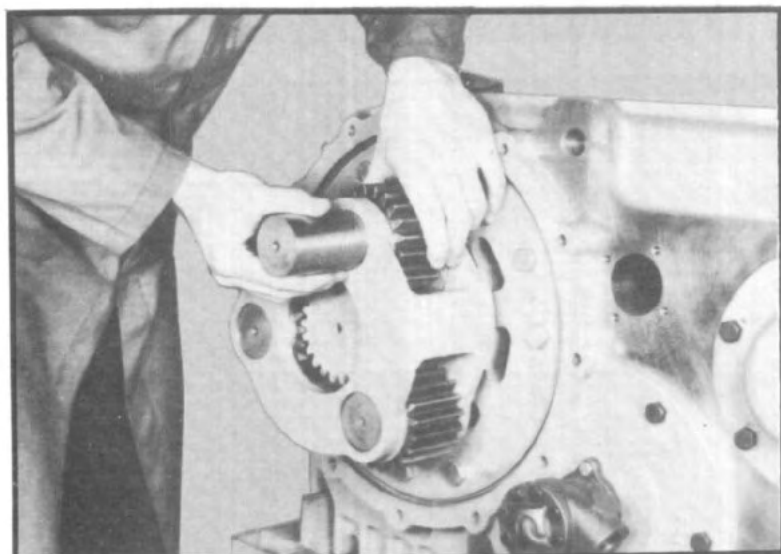

Fig. 64
- 3.11 Remove a planet pin from the planet carrier and withdraw planet gear and planet pin spacers from planet carrier. Push three needle bearing assemblies and two spacers from planet gear. Repeat procedure for remaining two planet gears. (See fig. 64.)